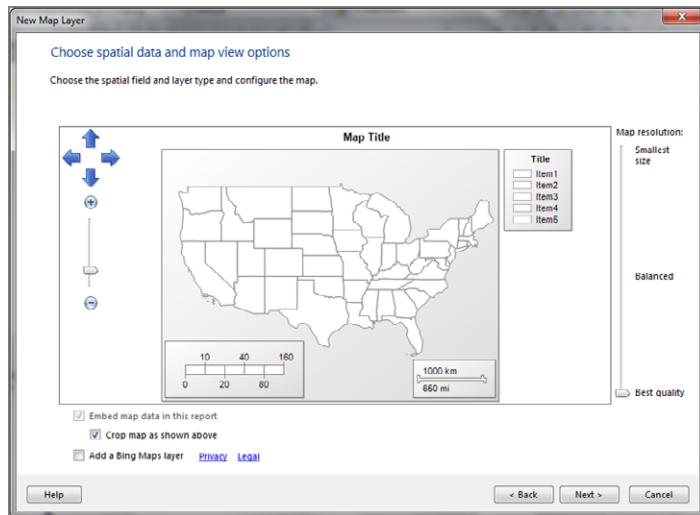

Figure 10-12
2. Zoom the map in so that the resulting view displays only the continental United States (as shown in Figure 10-12). For a dashboard map, typically you elect not to include Bing Map tile layers as the decorations since they do not provide any additional informative value.